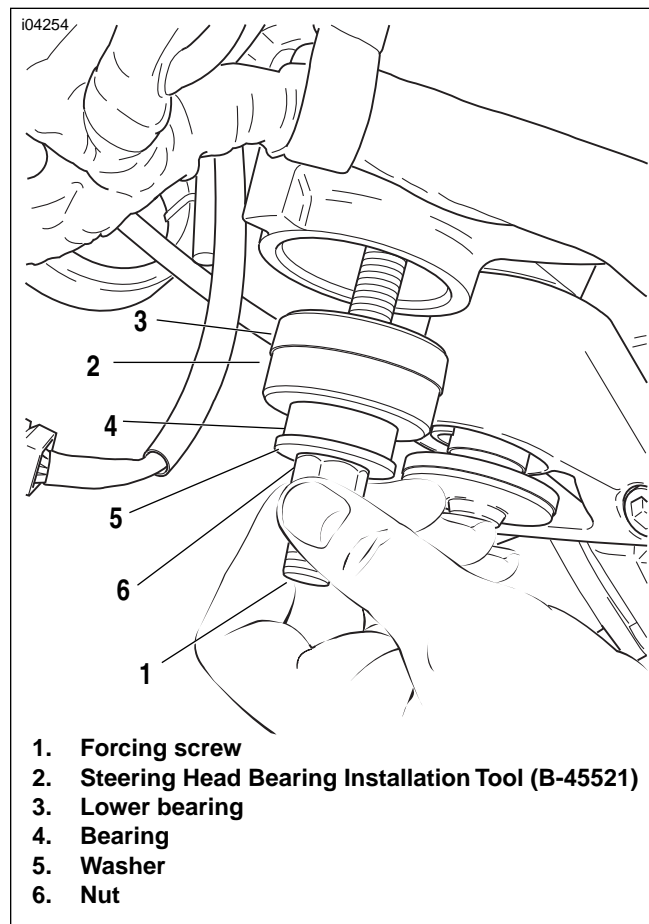

Figure 2-80. Lower Bearing
2. See Figure 2-80. Sparingly apply EXTREME PRESSURE LUBRICANT (Part No. J-23444-A) to the threads of the forcing screw (1) from the STEERING HEAD BEARING RACE INSTALLER (Part No. HD-39302), to prolong service life and ensure smooth operation. Insert the forcing screw (1) through the STEERING HEAD BEARING INSTALLATION TOOL (Part No. B-45521) (2).
4. Install the bearing (4), washer (5) and nut (6) from the STEERING HEAD BEARING RACE INSTALLER (Part No. HD-39302) onto the forcing screw (1).
5. Tighten the nut (6) by hand, until the bearing is started into the bore in the steering head.